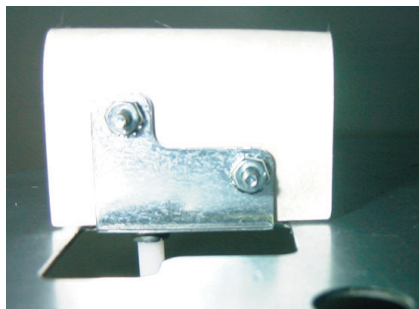

Figure 11 - Tip Switch Cover
4. The tip switch cover must isolate tip switch from metal base as shown in Figure 11.